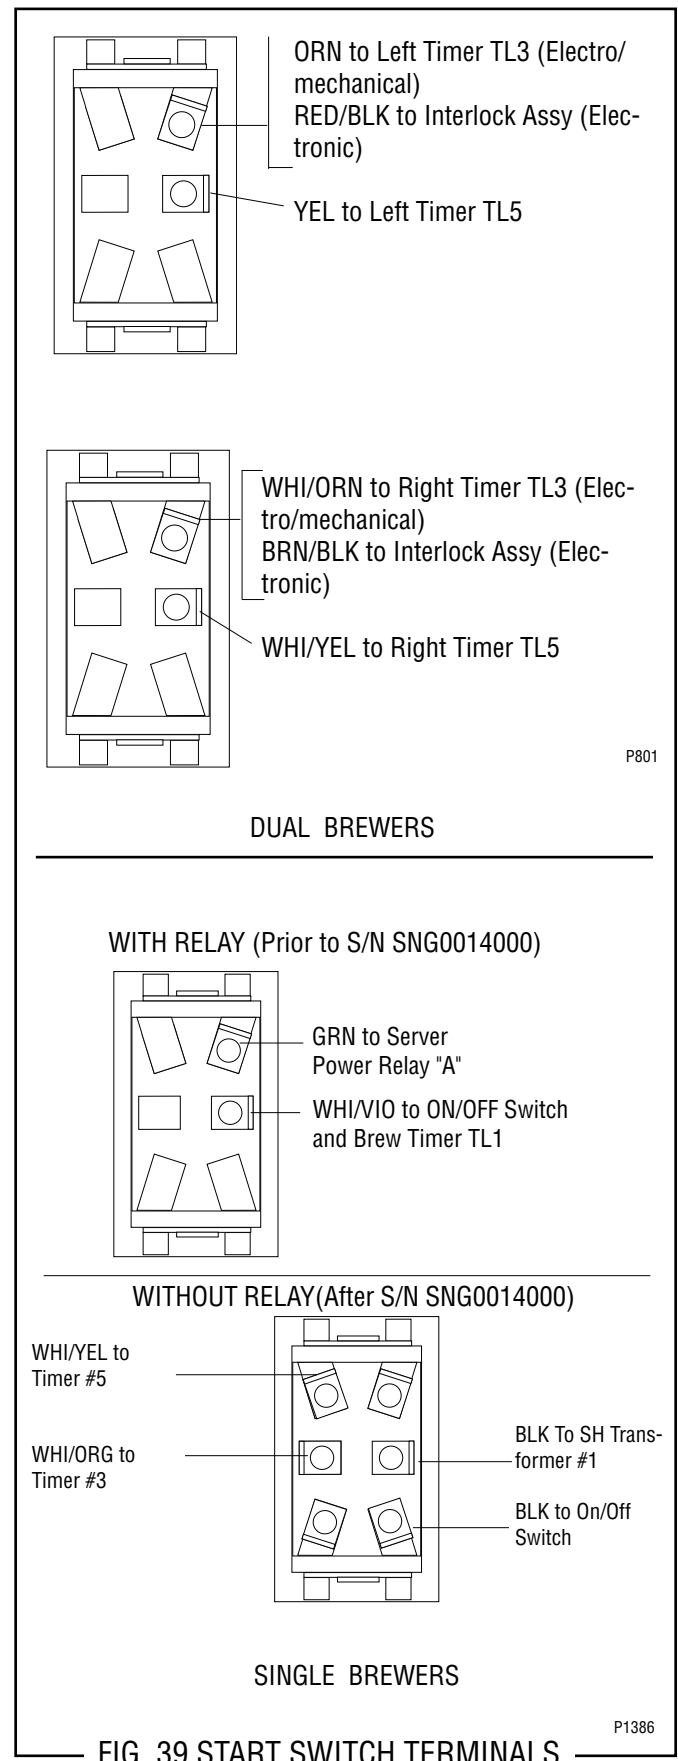

FIG. 39 START SWITCH TERMINALS
4. Refer to Fig. 39 when reconnecting the wires.